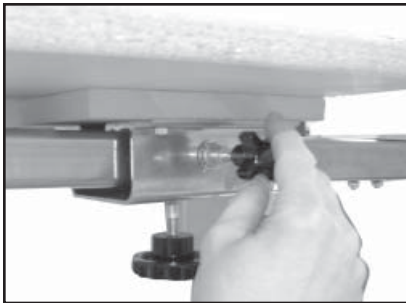

Fig. 17
- To adjust the shirtboard:** (Fig. 17) Loosen the shirt board and position so that it lines up with the screen frame when it is lowered into the horizontal position.